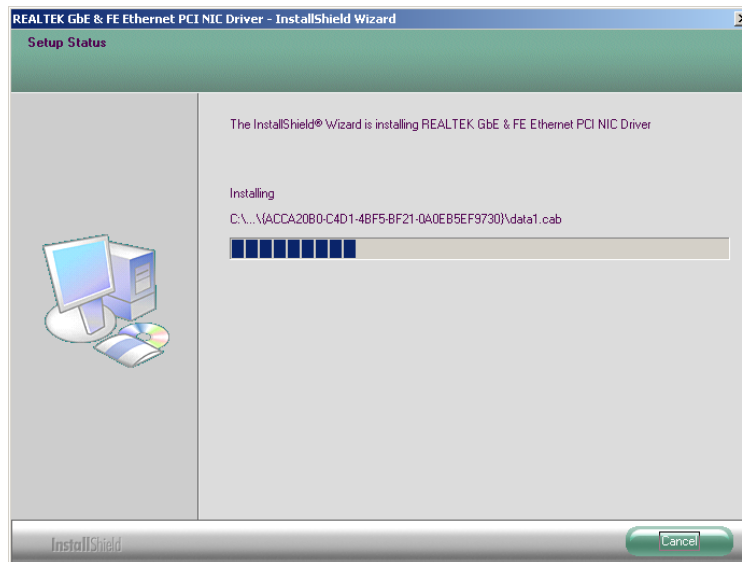

Figure 7-37: RTL8110SC Drivers Installing
Step 15: InstallShield starts to install the new software (Figure 7-37).